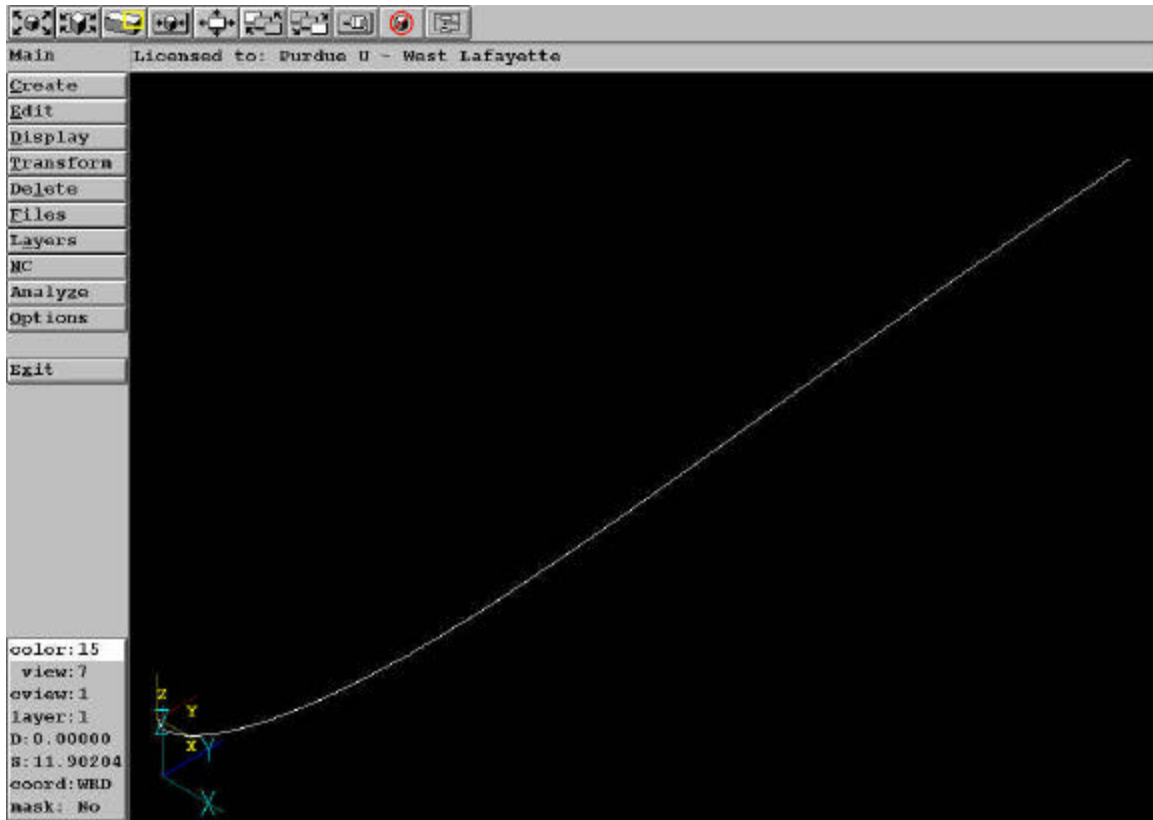

Figure 22: Airfoil input for lower surface mold
- 4.) Bring the file in as a SPLINE. Once the file is opened, change the VIEW to 7 – Isometric View, and change CVIEW to 1 – Top View. Also, change the frame of reference for SurfCAM to VIEW by pressing on the COORD field in the lower left hand of the screen. There should be just the lower surface of the airfoil on the screen, much like figure 22.